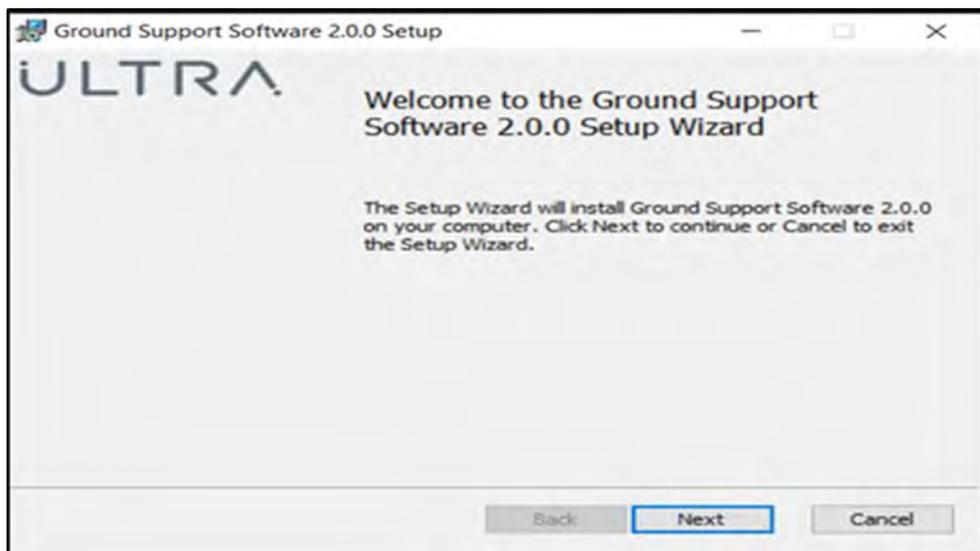

Figure 2-3 Setup Wizard
- (f) After the set up progress has finished the Setup wizard will install the Ground Support Software 2.0.0 Press next to continue. **(Ref fig 2-3)**